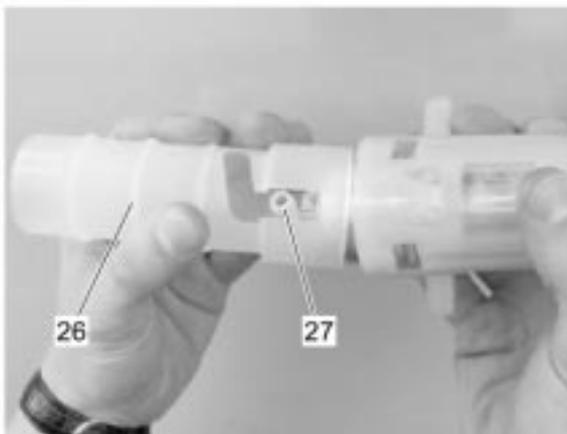

Fig. 8
- Place the new pump with the angled pump pressure nozzle (27) into the recess in the tool (26) (Pierburg no. 4.00063.00.0) (See → fig. 8)